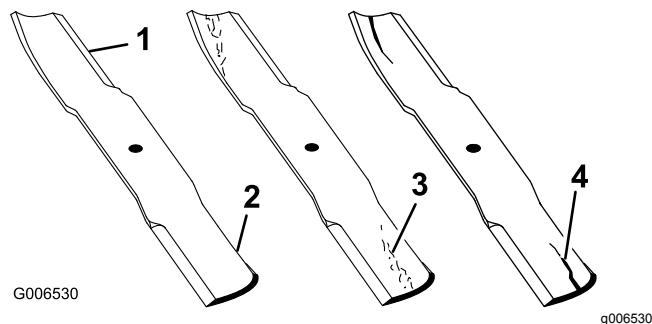

Figure 31
2. Examine the cutting ends of the blade carefully, especially where the flat and curved parts of the blade meet (Figure 31). Since sand and abrasive material can wear away the metal that connects the flat and curved parts of the blade, check the blade before using the machine. If you see wear (Figure 31), replace the blade; refer to Removing and Installing the Blade\(s\) (page 22).
If the blade is allowed to wear, a slot will form between the sail and flat part of the blade (Figure 31). Eventually, a piece of the blade may break off and be thrown from under the housing, possibly resulting in serious injury to yourself or bystanders.